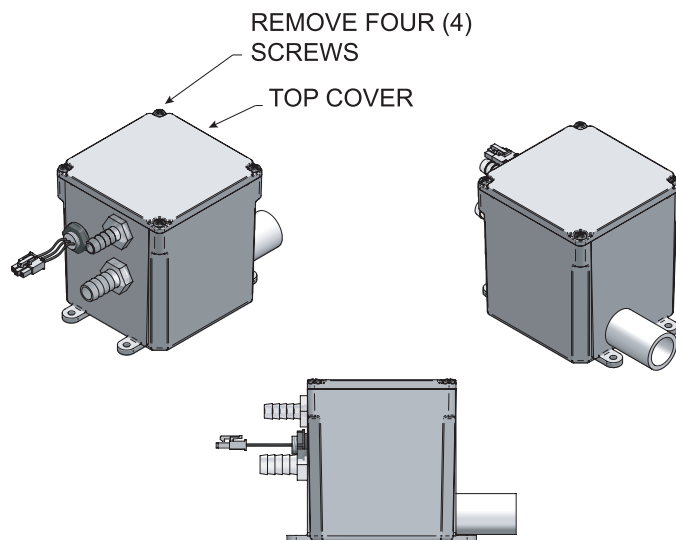

Figure 7-1_Condensate Trap
1. Remove the four (4) screws securing the top cover to the condensate trap and remove the cover (FIG. 7-1).
5. Replace the four (4) screws removed in Step 1.